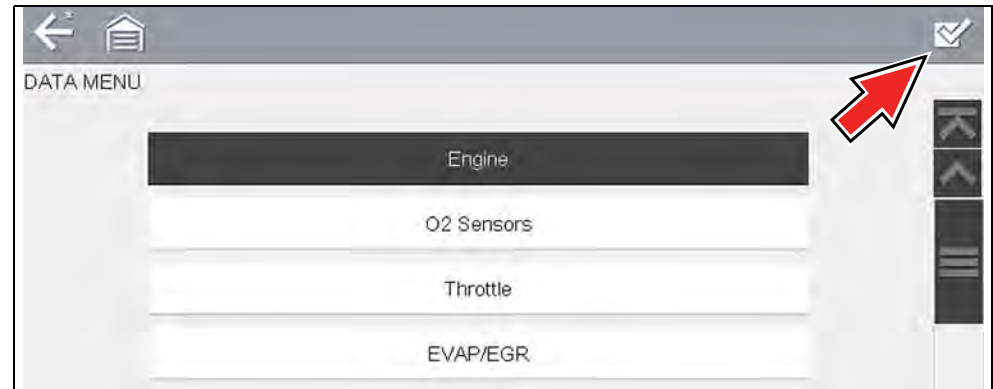

Figure 5-18
1. From the Data Menu select the **Custom List** icon on the toolbar (Figure 5-18). The Custom List icon allows you to start a custom list directly from the Data Menu.